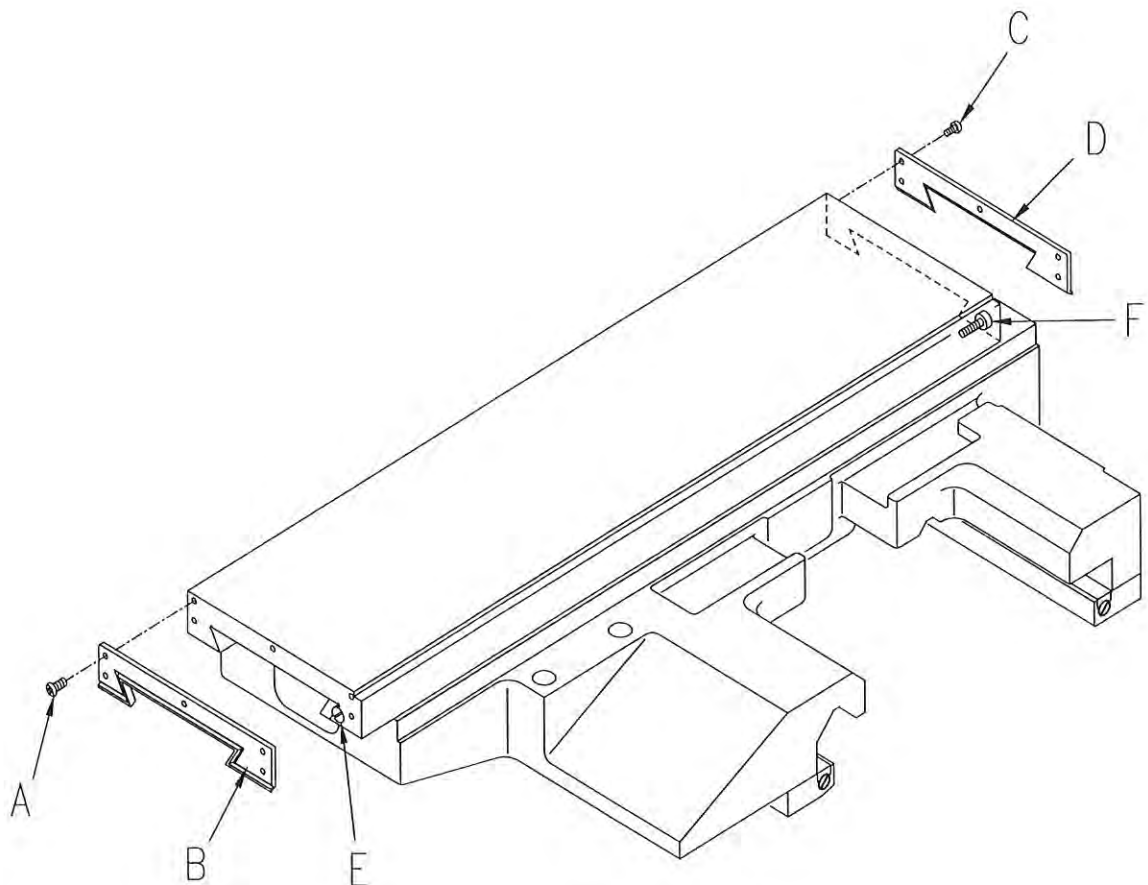

Figure 12
1. Use flat head screw driver to loose the adjust screw “A” and “B” as shown in Figure 12 about 1/2 circle CCW.
2. Appropriately tighten adjust screw “C” and “D” as shown in Figure 12 about 1/2 circle CW.